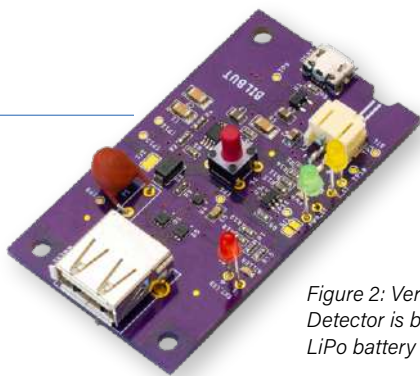

Figure 2: Version 1 of the USB Killer Detector is battery powered and packs a LiPo battery charger plus boost converter.
1. A portable battery-powered version that you can carry anywhere you, as shown in **Figure 2**. It includes a LiPo battery charger and a boost converter to turn the battery voltage into 5 V for the USB stick.